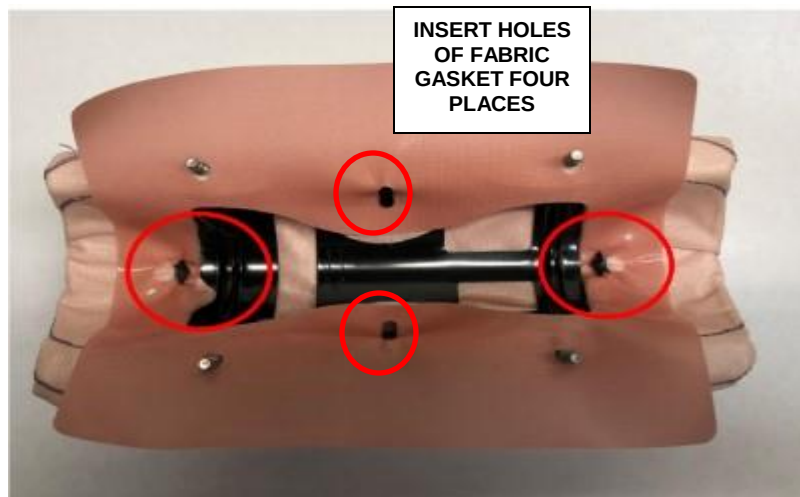

Figure 168 - Fabric Gasket
- h. With the help of a trim tool insert the holes of fabric gasket, four places (Figure 168).